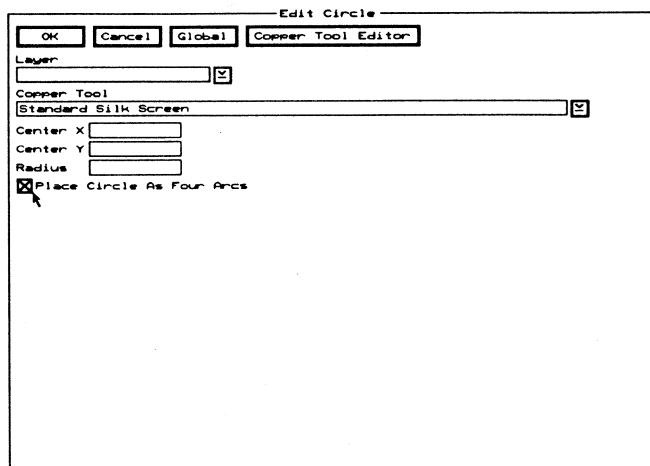

Figure 5-18. The **Edit Circle** dialog box.
3. Select **Set**. The **Edit Circle** dialog box displays (figure 5-18).